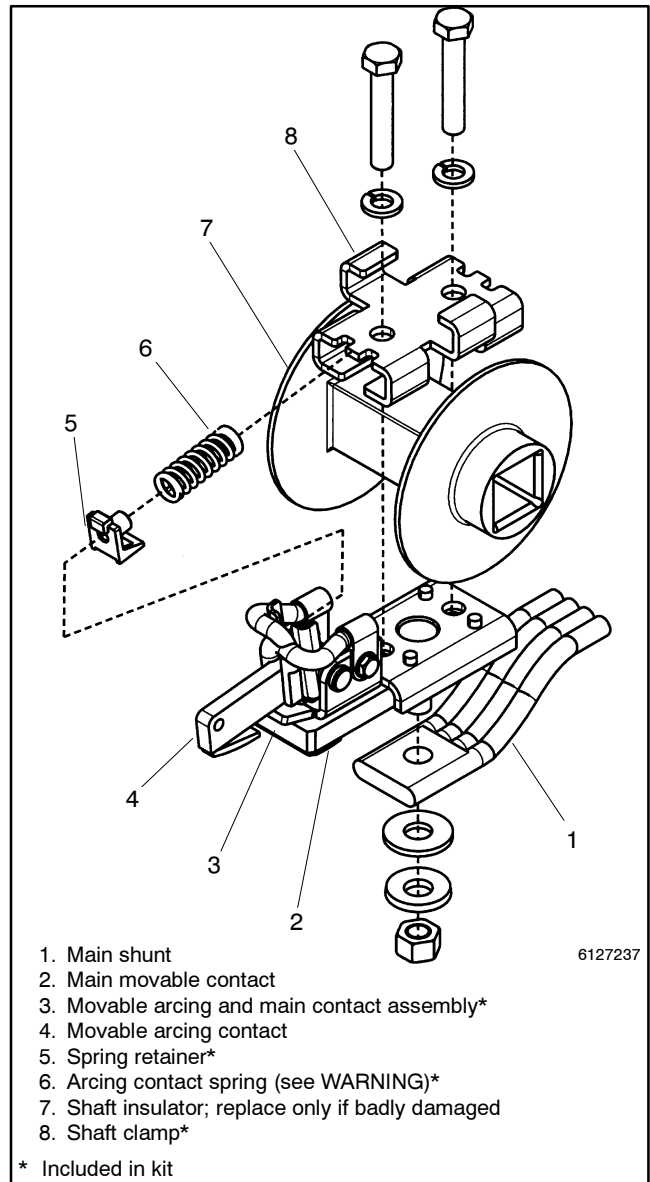

Figure 8-13 Movable Main Contact Assembly
2. Disconnect the main shunt. Use a 3/8 in. open-end or box wrench to remove the hex nut (with disc and flat washers) that secures the main shunt to the bottom of the main movable contact assembly. See Figure 8-13.
release the movable arcing contact spring from the tab on the metal bracket. See the **WARNING** first! Then remove the spring and spring retainer. See Figure 8-13.
4. Disconnect the main shunt. Use a 3/8 in. open-end or box wrench to remove the hex nut (with disc and flat washers) that secures the main shunt to the bottom of the main movable contact assembly. See Figure 8-13.
5. Remove the shaft clamp and movable contact assembly. Use a 5/16 in. socket wrench to remove the two hex head bolts (with lock washers) that secure the movable contact assembly and shaft clamp to the shaft. See Figure 8-13.
6. Install the new movable contact assembly. Position the new movable contact assembly under the shaft (align protrusions on both side). Secure it by installing the new shaft clamp and the new 5/16-18 x 1 3/4 in. long hex head bolts with split lock washers. Tighten both bolts to 5 ft. lb., then continue tightening them to 11 ft. lb. See Figure 8-13.
7. Reconnect the main shunt. Make sure the main shunt and new movable contact assembly surfaces are clean (do not use any abrasive). Position the main shunt under the movable contact assembly (onto the stud) and secure it with a new 3/8 in. flat washer, new 3/8 in. disc washer (curved surface toward nut), and new 3/8 in. hex nut. Use a 3/8 in. open-end or box wrench to tighten nut (cw). See Figure 8-13.
8. Install the new movable arcing contact spring. Install the new spring retainer onto the tab on the spring bracket. Then use a screwdriver (or spring compressor) to carefully install the new movable arcing contact spring between spring retainer and the tab on the shaft clamp. See Figure 8-13. See the the Note above first!
4. Reinstall the stationary contact assembly. Make sure the bus plate and contact assembly surfaces are clean (do not use any abrasive). Position the stationary contact assembly onto the stud in the bus plate. Use a 3/8 in. socket wrench with 12 in. extension to install the quick connect terminal plate, heavy flat washer, new heavy disc washer (curved surface out), and 3/8 in. hex nut to secure the assembly. Tighten to 27.1 Nm (20 ft. lb.) torque. See Figure 8-13.